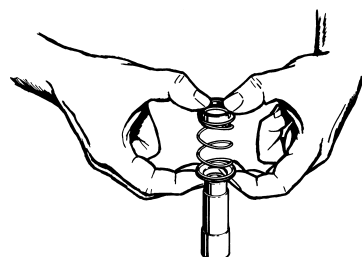
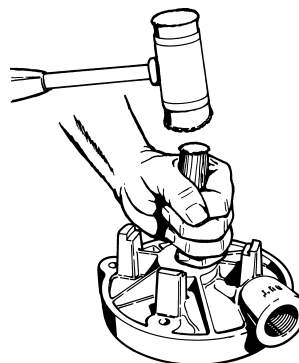

Figure 4-3
Figure 4-6
8. Remove the rotating element from the sleeve. Refer to Figure 4-3. The element normally adheres tightly to the sleeve and some force may be necessary to remove it. This is common and if care is taken, the element can be reassembled and reused. **It is recommended that a new rotating element be used for reassembly.** DO NOT attempt to remove the seal using a screwdriver or other sharp object. Extensive damage to the shaft, sleeve, or element could occur.
9. Before the motor bracket (#1) can be removed, the four (4) "O" rings (#8), located on the upper left and right studs must be removed.
10. Remove the seat portion of the seal, Refer to Figure 4-6.